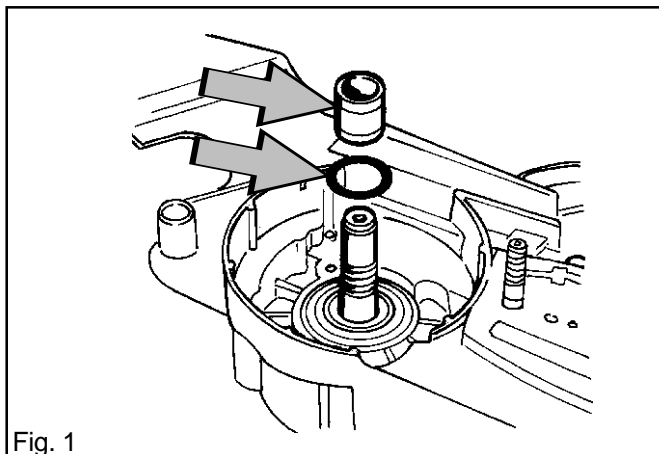

Fig. 1
3. Remove the washer and spacer on the clutch side. See fig. 1.